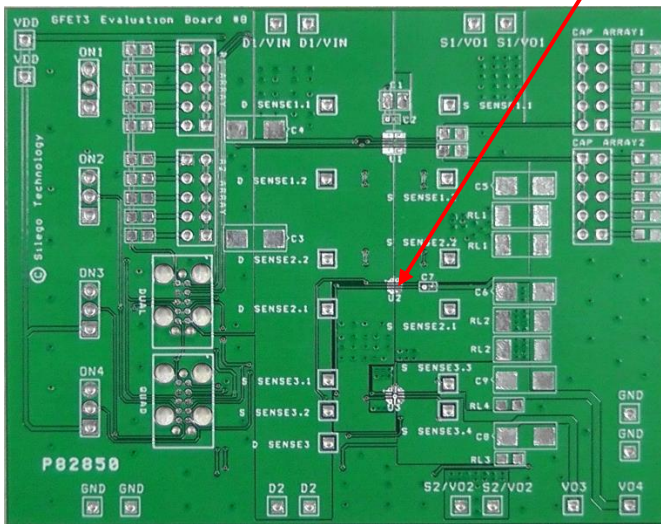

Figure 3. SLG59M1599V Evaluation Test Board
2.3. The D and S pins carry significant current. Please note how the D and S pads are placed directly on the power planes in Figure 3, which minimizes the RDS(ON) associated with long, narrow traces. The D and S pins dissipate most of the heat generated during high-load current condition. The layout shown in Figure 3 is illustrating a proper solution for heat to transfer as efficiently as possible out of the device.